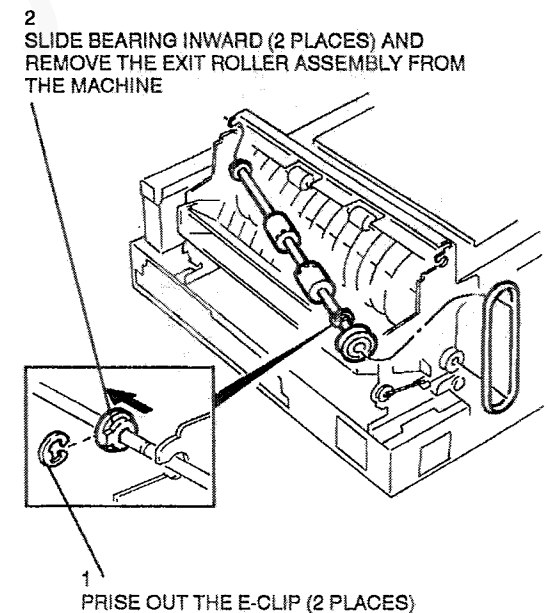

Figure 1. Exit roller assembly (upper) removal
5. (Figure 1) Remove the exit roller assembly (upper).